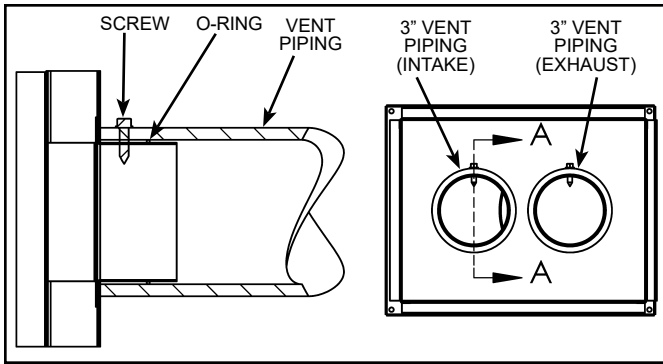

Figure 28.
2. Thoroughly inspect the vent termination for any damage (see Figure 28).
4. Drill 7/64” pilot holes for a #8 screw (see Figure 28). Take care not to damage the O-ring.
5. Secure the vent piping to the air box with screws (see Figure 28).